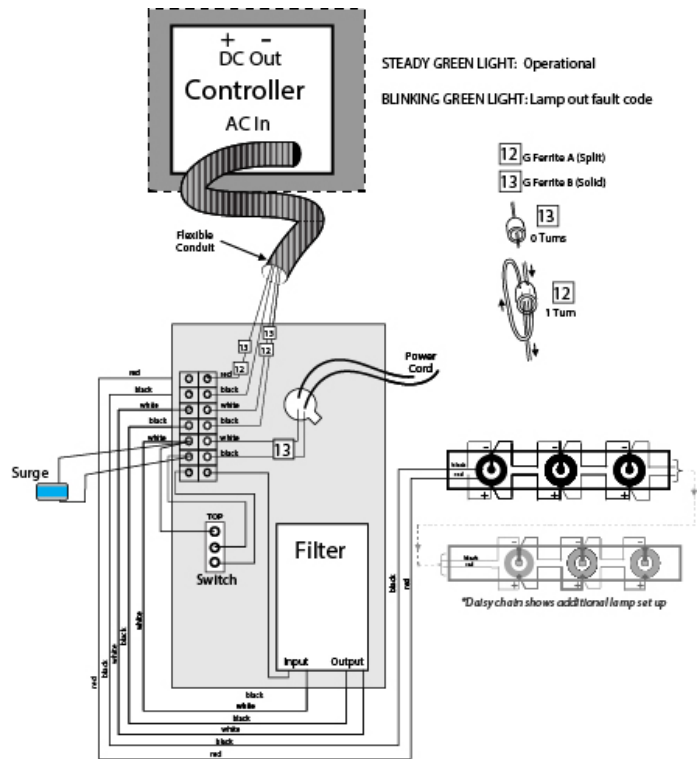

Figure 2A:
- The wiring diagram for our signs' On/Off switch is shown in figure 2A.